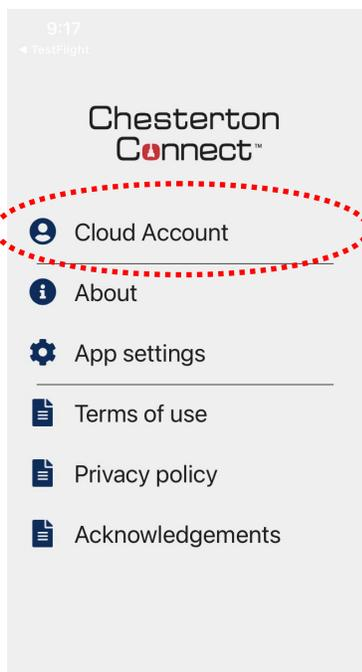

Figure 11
1. Open the Chesterton Connect app, select **Cloud Account** (see figure 11).